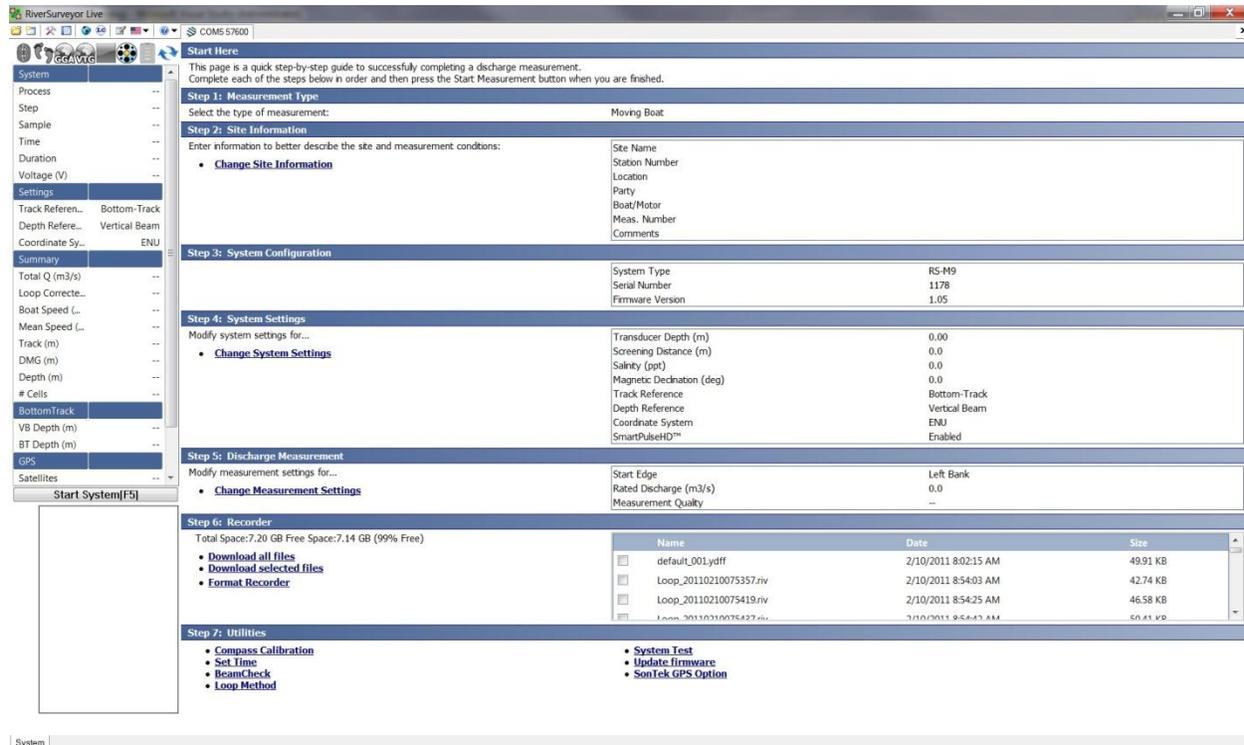

Figure 128. Utilities Menu - Loop Method
5. Click on **Loop Method** located in the Utilities Menu of the PC software as shown in Figure 128. It is in the Main Menu when using the mobile software. The instrument will begin profiling.